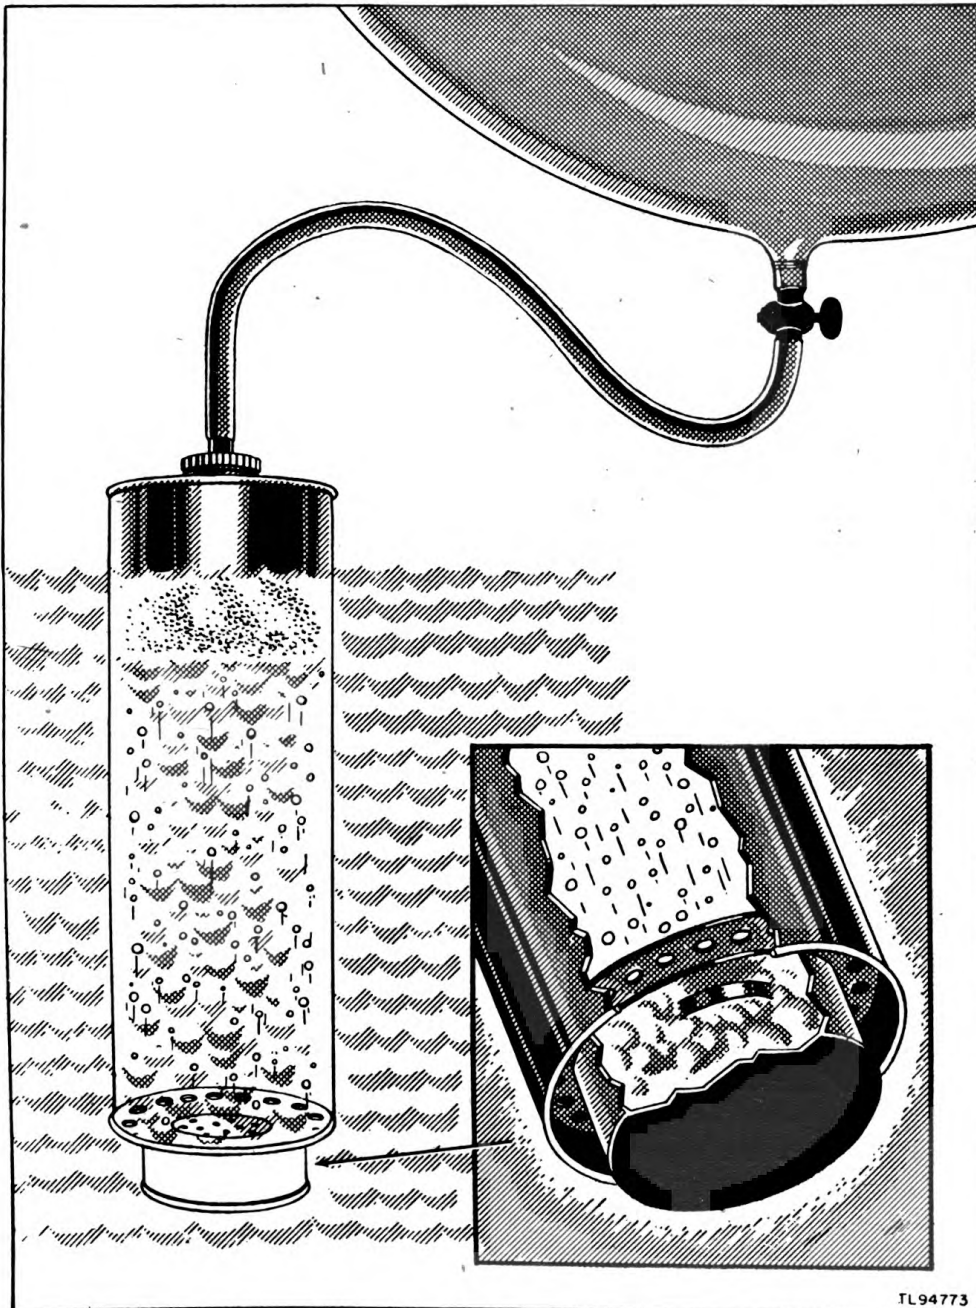

Figure 13. Functioning of hydrogen generator.
a. HYDROGEN GENERATOR ML-303/TM (fig. 13). When the generator is placed in water, the water enters the generator body through holes in the bottom baffle plate and reacts with the exposed calcium hydride briquettes attached to the bottom of the generator. The hydrogen gas bubbles rise through the water and pass through the outlet tube to the balloon. The outlet tube provides a means of attaching the hose. The water in the can serves as a seal to prevent the escape of hydrogen from